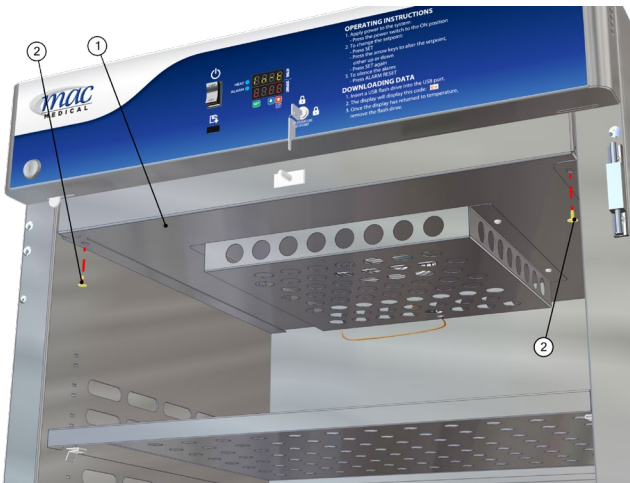

Fig. 2: Remove Drawer Assembly screws
Table 2 (Fig. 2)
2. Align the two holes (located bottom-front) on the drawer with the two holes in the rail guides in the Warming Cabinet. Secure the Drawer Assembly to the cabinet guide rails by attaching two 8-32 X 1/2" self-tapping screws (Table 2, Item 2) into the holes of the guide rails of the cabinet (Fig. 2).